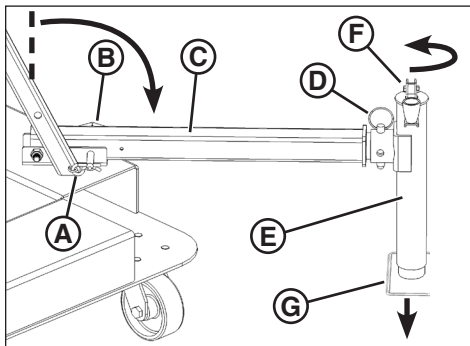

Figure 7
1. Remove the hair pin cotter (A, Figure 7) and outrigger locking pin (B).
2. Lower the outrigger (C, Figure 7) into the operating position as shown, and lock in the operating position with the outrigger locking pin. Secure the outrigger locking pin with the hair pin cotter.
- Remove the stabilizer jack locking pin (D, Figure 7). Rotate the jack into the operating position (E). Install the stabilizer jack locking pin fully through the top and bottom holes in the jack and outrigger.
- Unfold the handle (F, Figure 7) of the stabilizer jack. Turn the handle counter-clockwise to lower the jack foot (G) firmly onto the work site surface.